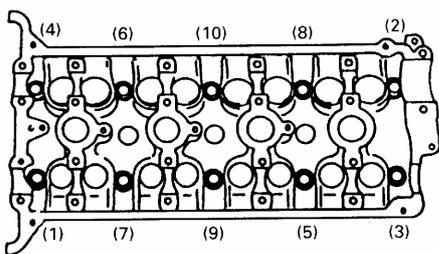

Fig. 4-117
- 4) Remove cylinder head bolt according to order as shown in Fig. 4-117.